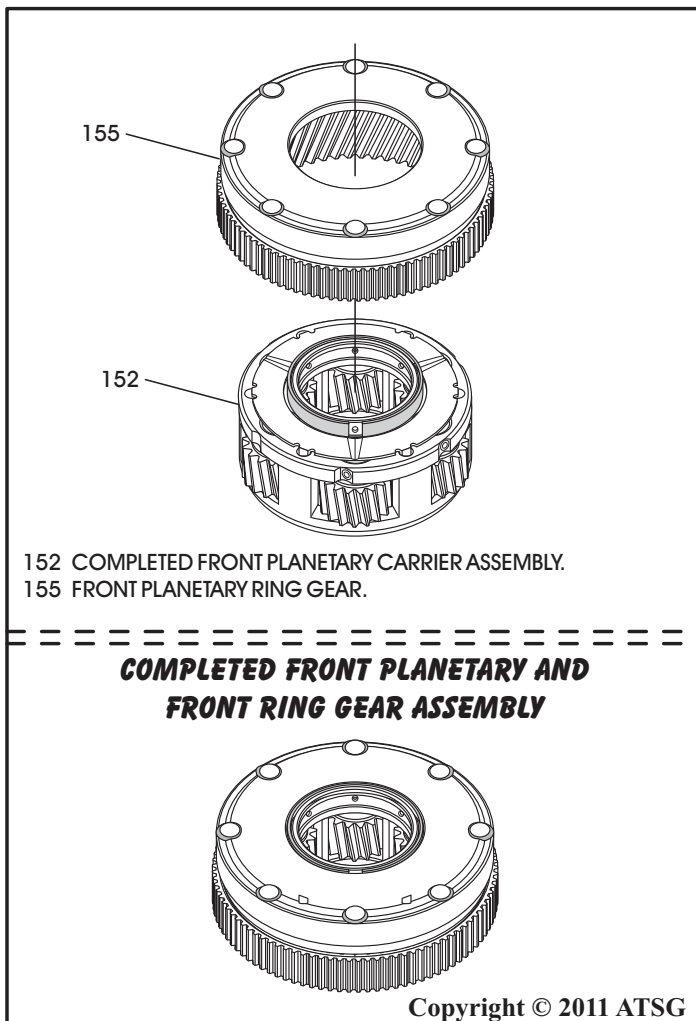

Figure 136
6. Install the front planetary ring gear onto front planetary carrier, as shown in Figure 136, by rotating into position.